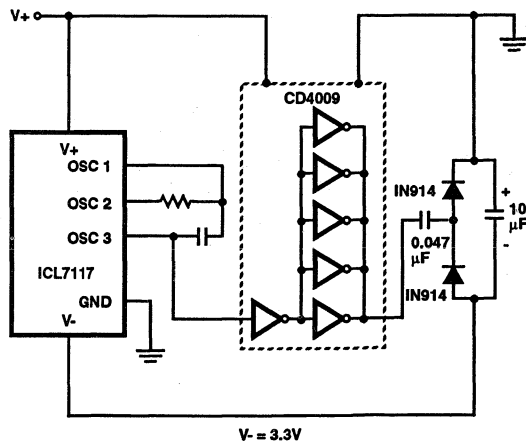

FIGURE 10. GENERATING NEGATIVE SUPPLY FROM +5V
- The ICL7117 is designed to work from \pm 5V supplies. However, if a negative supply is not available, it can be generated from the clock output with 2 diodes, 2 capacitors, and an inexpensive I.C. Figure 10 shows this application. See ICL7660 data sheet for an alternative.